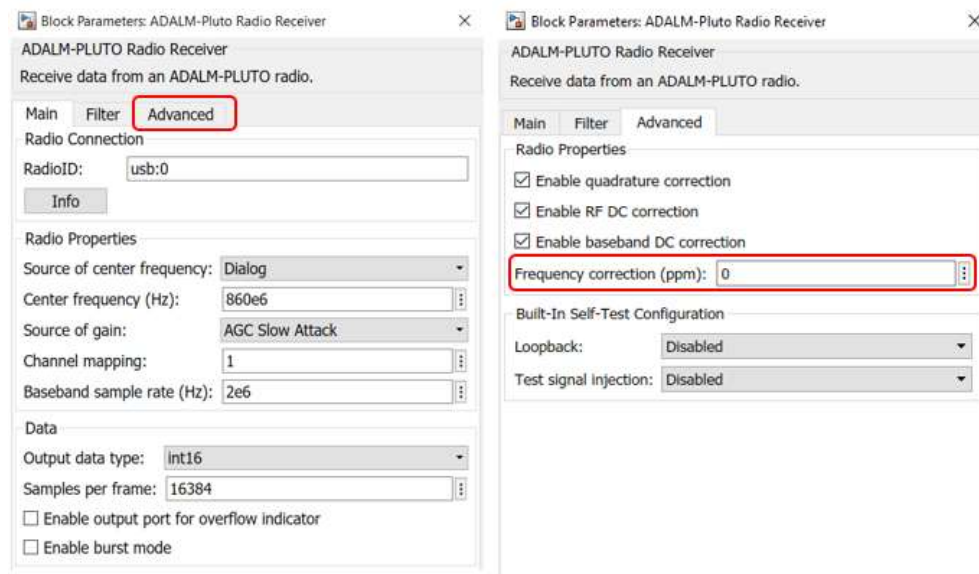

Figure 9: ADALM-PLUTO receiver configuration parameters
4.3.5) To access the “Block Parameters ADALM-Pluto Radio”, illustrated in Figure 9, double-click on the “ADALM-PLUTO Receiver”. In the “Advanced” TAB, place the calculated value of the deviation parameter p in “Frequency correction (ppm)”. Next, check that the pilot frequency is correct (175KHz).